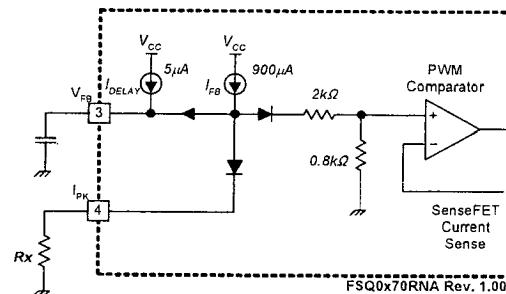

Figure 18. Peak Current Limit Adjustment
7. Adjusting Peak Current Limit: As shown in Figure 18, a combined 2.8kΩ internal resistance is connected to the non-inverting lead on the PWM comparator. An external resistance of Rx on the current limit pin forms a parallel resistance with the 2.8kΩ when the internal diodes are biased by the main current source of 900μA.